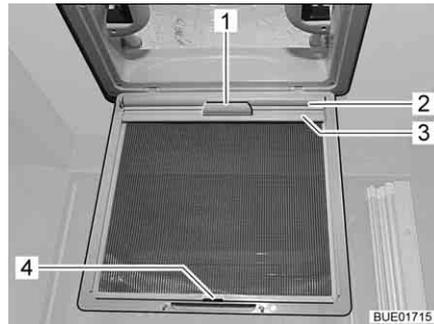

Fig. 122 Blind
- Using the handle (Fig. 122,1), pull out the blind (Fig. 122,2) and hook the retainer (Fig. 122,3) into the hook (Fig. 122,4) on the insect screen.
- Release the retainer (Fig. 122,3) from the hook (Fig. 122,4) and, using the handle (Fig. 122,1), slowly return the blind (Fig. 122,2).